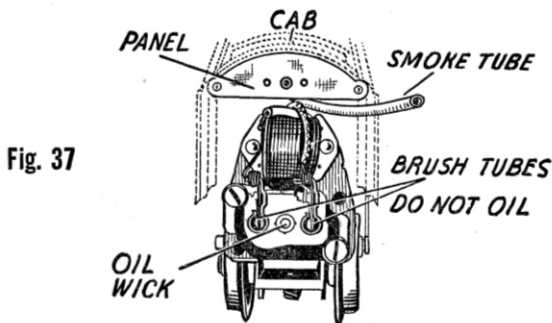

Fig. 37
Study Figs. 37 and 38, and using a small bottle of high grade fine oil (Sewing Machine Oil) and some vaseline, proceed as follows:
1. The rear motor bearing wick reached through the rear of the locomotive cab. See Fig. 37. (Be careful not to get oil in the brush tubes.)